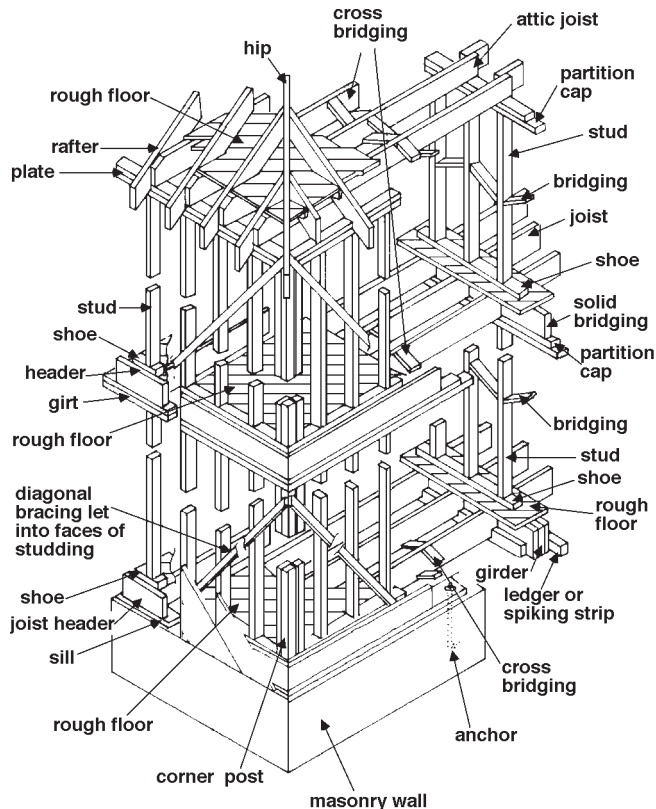

Figure 3. Platform or Western Framing
- shoe.** A horizontal member upon which the lower end of studs rest. May also be called a sole (Figs. 3 and 5).